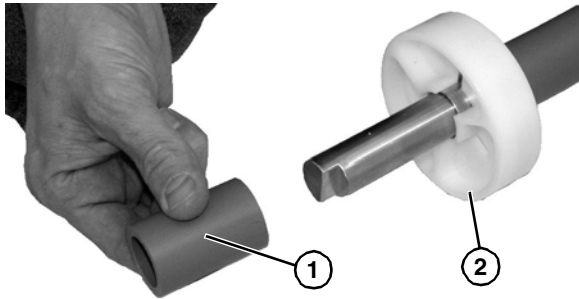

Figure 64
5. Slide off the round puck spacer (Figure 64, item 1).
6. Slide off puck and replace (Figure 64, item 2).